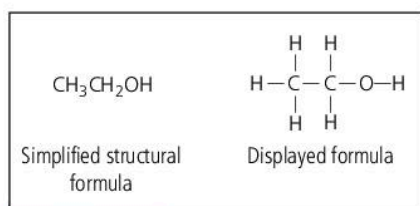

Figure 5.3.1 Simplified structural formula and displayed formula of ethanol
- A **structural formula** shows us how the atoms are bonded in a molecule. Simplified structural formulae do not show any bonds except for double and triple bonds but **displayed formulae** show how the bonds are arranged (see Figure 5.3.1).